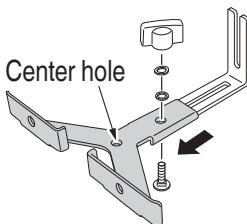

**Fig. 24**
- (1) Turn wing nut and remove the bolt and washers (2 pieces).
- (2) Reverse the top and bottom of the straight guide and attach it to the guide holder. (**Fig. 24**) Depending on the radius of the circle to be processed, the holes will vary for the wing nut and bolt.